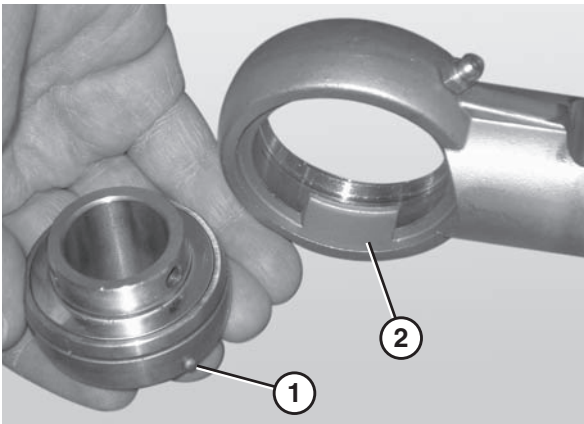

Figure 94
5. Remove the worn or damaged bearing (**Figure 94**).
When inserting the new bearing, make sure the anti-rotation notch (**Figure 94, item 1**) on the bearing lines up with the groove inside the housing (**Figure 94, item 2**).